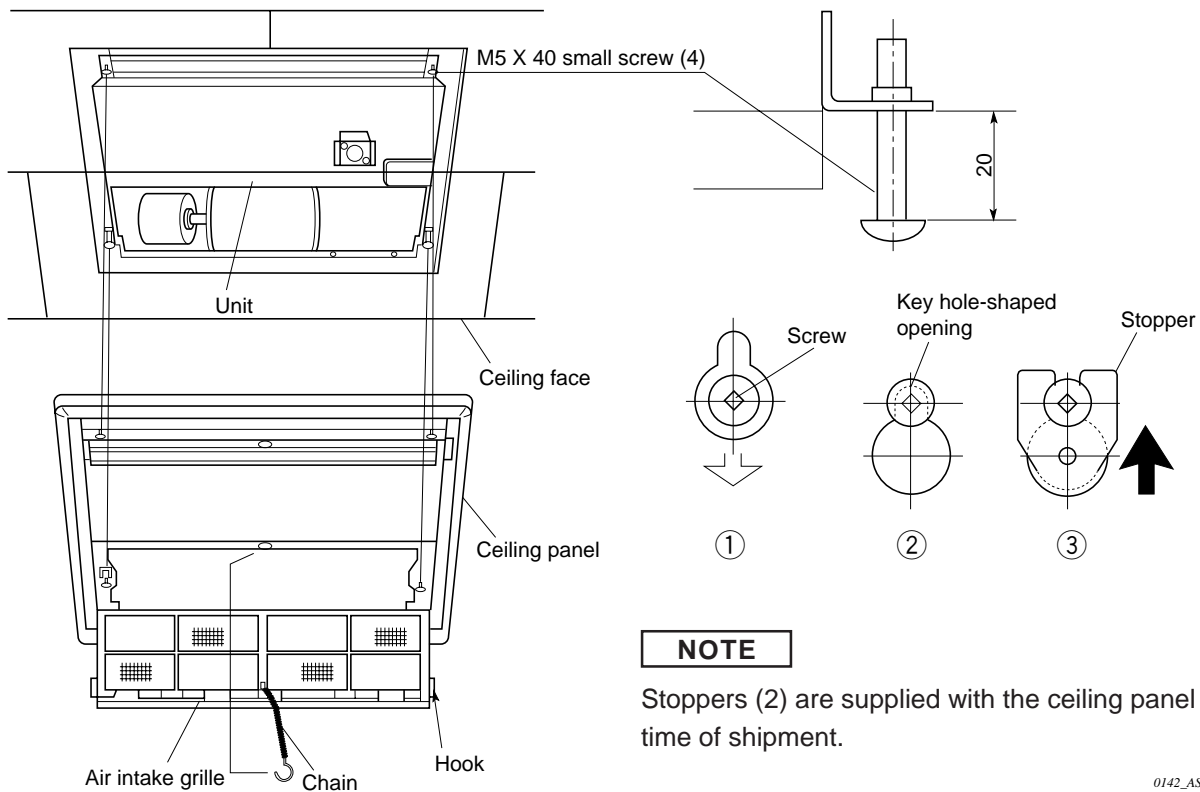

Fig. 10-1
- (1) Screw the M5 X 40 screws supplied (in the unit packing) into 4 points on the flange surface of the unit bolted to the ceiling. Insert the screws so that the distance between the bottom of the screw head and the bottom surface of the flange is at least 19.05 mm. (Fig. 10-1)
- (2) Next, lift the ceiling panel in this position so that the 4 protruding screws pass through the key hole-shaped openings in the panel, then shift the panel sideways until it is caught by the screws.
- (3) Keeping the ceiling panel in this position, check to see if the joining edge of the ceiling panels are in line with those of the ceiling material. If they are not in line, remove the ceiling panel and finely adjust the suspension position of the unit.
- (4) Once the joining edges are properly aligned with each other, install the supplied stoppers into the key hole-shaped openings, then insert the 4 screws until the ceiling panel touches the flange surface of the unit.
- (1) Pass through screws on the unit into the key hole-shaped opening on the panel.
- (2) Then, shift the panel sideways until it is caught by the screws.
- (3) Insert the stoppers in the direction of the arrow as shown, confirm that the bent portion of each stopper is securely in the hole, A and B, then tighten the screw. (Fig. 10-1)